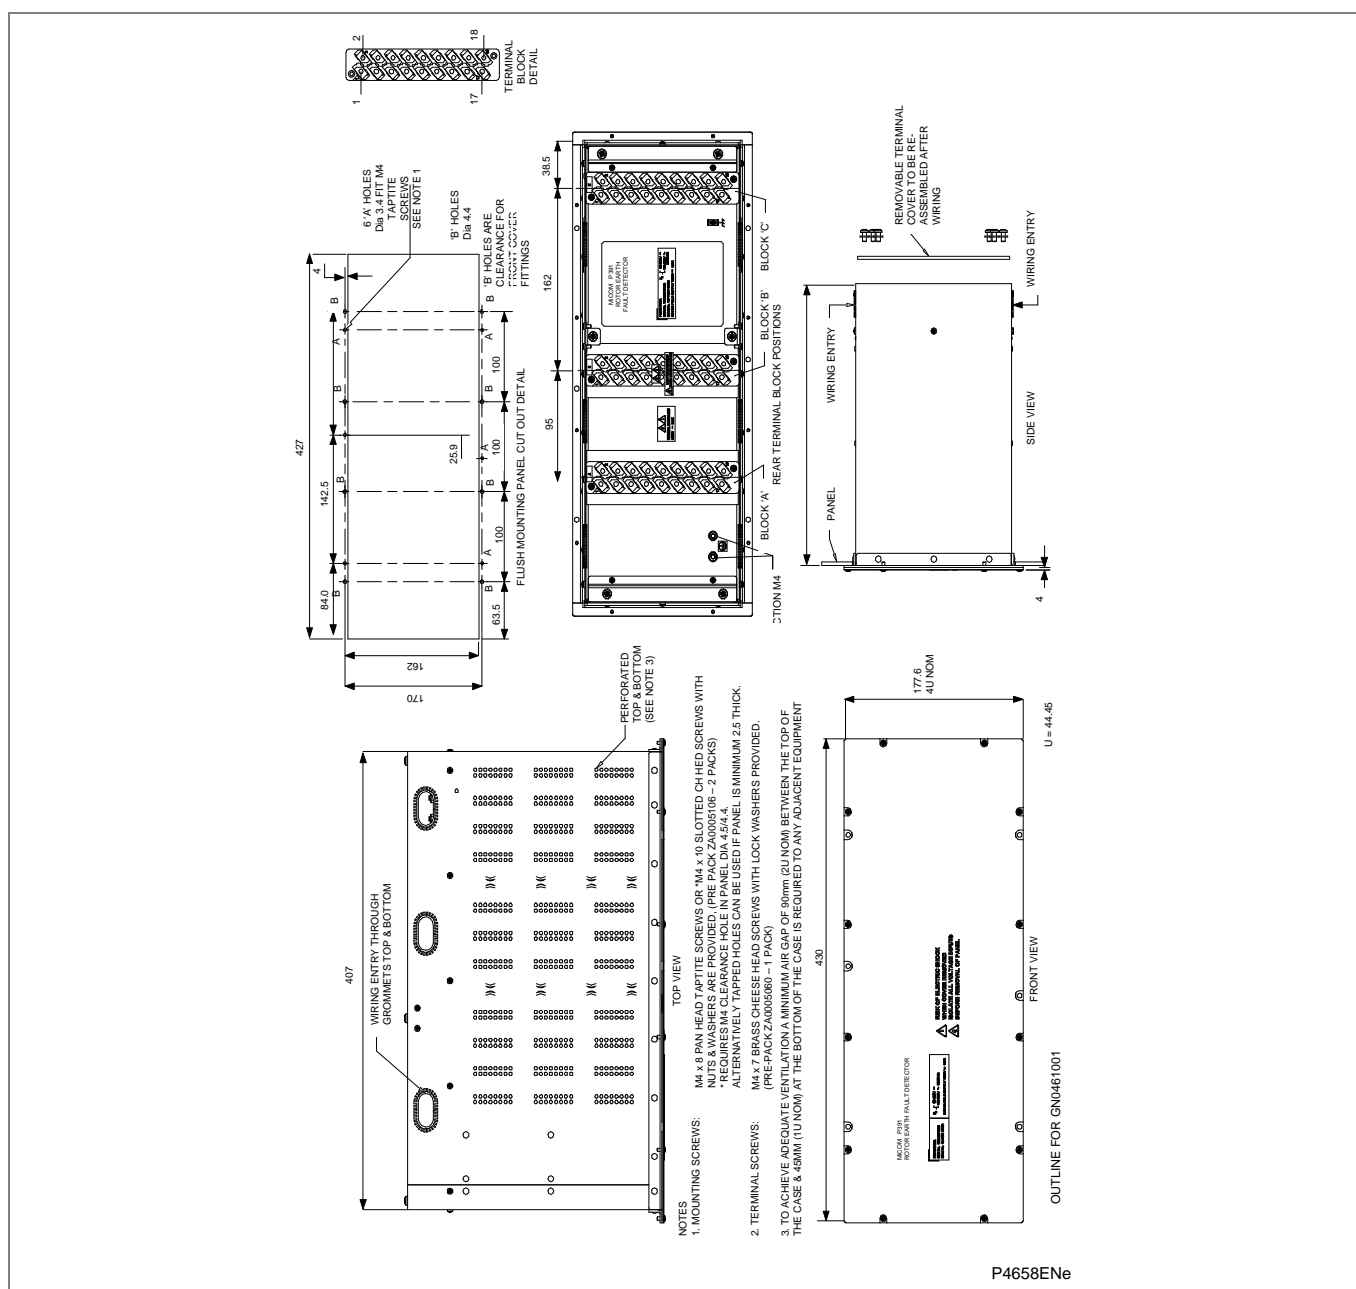

Figure 3 - P391 outline and panel mounting details (80TE case)
- Figure 3 - P391 outline and panel mounting details (80TE case)